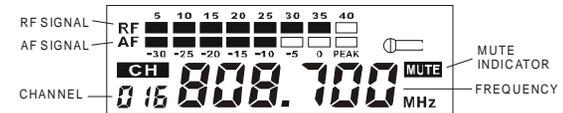

Fig.27 Screen of receiver 8223
- 4.7.4 Adjust the volume of the receiver and amplifier to "MIN" and turn on the receiver, the LCD screen of the receiver will light on and display as Fig.27: